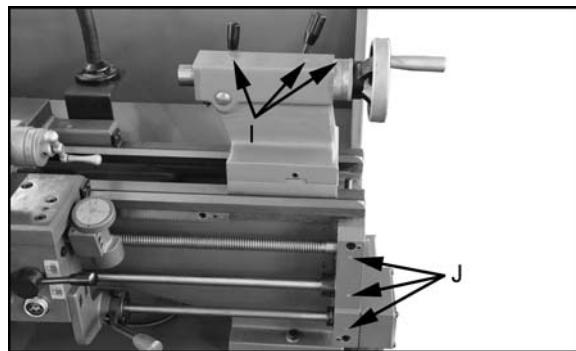
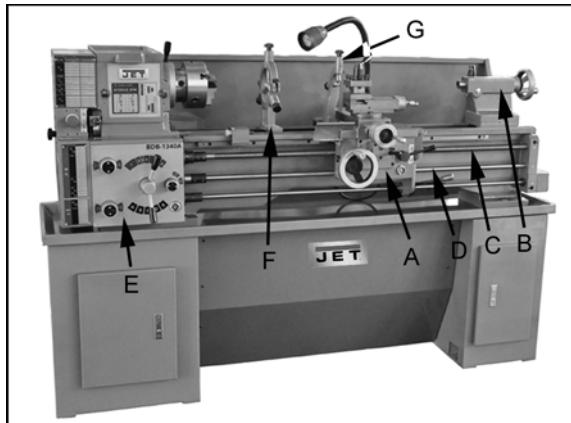

Figure 10
Figure 13
12. **Tailstock** - Lubricate three ball oilers (I, Fig. 10) once daily with Mobil DTE® Oil Heavy Medium.
13. **Leadscrew/Feed Rod** - Lubricate three ball oilers once daily (J, Fig. 10) with Mobil DTE® Oil Heavy Medium.
The apron (A, Fig. 13) is mounted to the carriage. In the apron a half nut is fitted. The half nut gibbs can be adjusted from the outside. The half nut is engaged by use of a lever. Quick travel of the apron is accomplished by means of a bed-mounted rack and pinion, operated by a hand wheel on the front of the apron.
The tailstock (B, Fig. 13) slides on a v-way and can be locked at any location by a clamping lever. The tailstock has a heavy-duty spindle with a Morse Taper #3.
The leadscrew (C Fig. 13) and feed rod (D, Fig. 10) are mounted on the front of the machine bed. They are connected to the gearbox at the left for automatic feed and lead. They are supported by bushings on both ends. Both are equipped with brass shear pins.
The gear box (E, Fig. 13) is made from high quality cast iron and is mounted to the left side of the machine bed.
The steady rest (F, Fig. 13) serves as a support for shafts on the free tailstock end. The steady rest is mounted on the bedway and secured from below with a bolt, nut and locking plate. The sliding fingers require continuous lubrication at the contact points with the workpiece to prevent premature wear.
The traveling follow rest (G, Fig. 13) is mounted on the saddle and follows the movement of the turning tool. Only two fingers are required as the turning tool takes the place of the third. The follow rest is used for turning operations on long, slender workpieces. It prevents flexing of the workpiece from the pressure of the cutting tool.